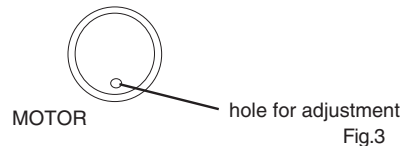

Fig.3
- Adjust a hole on the motor bottom so that a frequency counter reading of 3,000 $\pm$ 5Hz is obtained. See Fig.3.